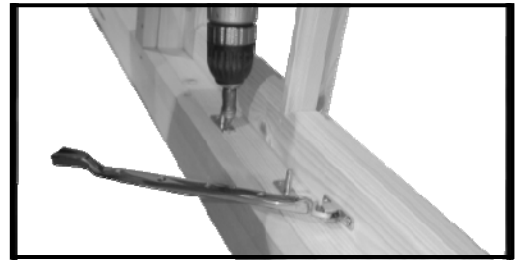

Fig A17
30. Position the first pin so it fits into the first hole on the stay making sure it holds the window tight. Carefully remove the stay holding the pin in position, secure pin using 2 x 25mm screws (Fig A17) . Repeat for other pins.